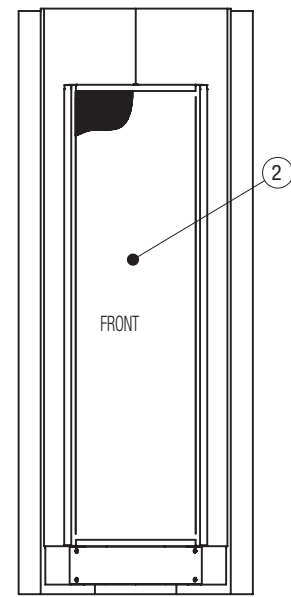

Figure 13
5. Install diffuser (Item 2) over the mounting angles so that the back of the diffuser is flush with the wall (Figure 13 & 14). Fasten diffuser to mounted angles with screws (Item 5). Use minimum 2 screws per side of diffuser. Base cover may need to be removed to access duct for bottom ducted units if one was supplied.